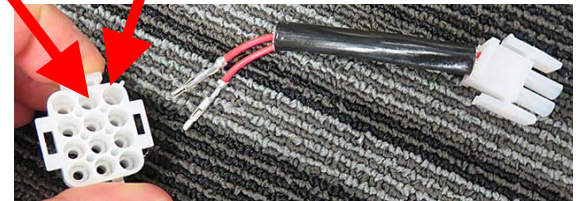

Figure 36
40. Using a pin pusher, push pins 1 and 2 out of the 12-pin connector and set aside for later use (see Figure 36).